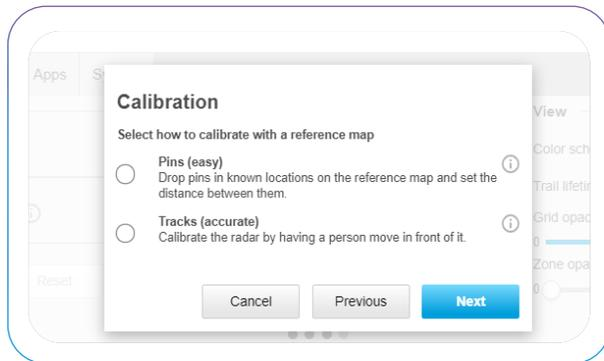

Figure 12. Calibration using Pins
C. Select Pins (Figure 12) and click on the **Next** button to proceed.